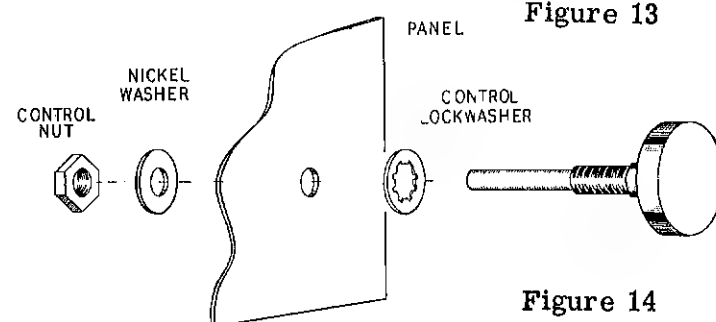

Figure 13
- ( ) Prepare the volume control CC as shown in Figure 13. Slip sleeving over one lead of a .01  $\mu$ fd disc condenser and connect this lead to CC2 (S) (1). Do not cut away any of the leads.
- ( ) Cut a wire to a length of 3", strip and tin both ends and connect one end to CC3 (S) (1).
- ( ) At one end of this cable, connect one lead to control switch terminal CC4 (S) (1) and the remaining free end to CC5 (S) (1).